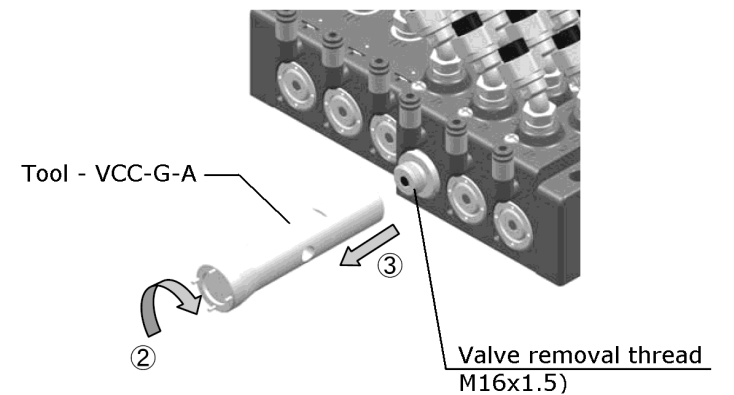

Figure 5
- Reverse the tool (VCC-G-A) and attach to valve and turn 45° to 90° clockwise ② (to release the O-rings) and extract the valve out straight ③. See Figure 5.